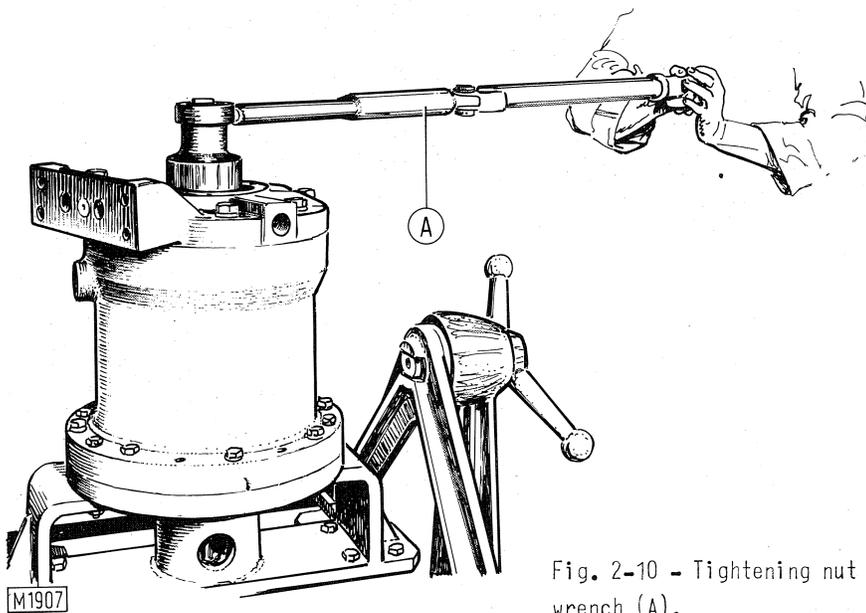

Fig. 2-10 - Tightening nut (3, fig. 2-1) using torque wrench (A).
- install bearing (5) using punch 75295490 and tighten nut (3) to the specified torque, then lock it by swaging the edge (fig. 2-10);